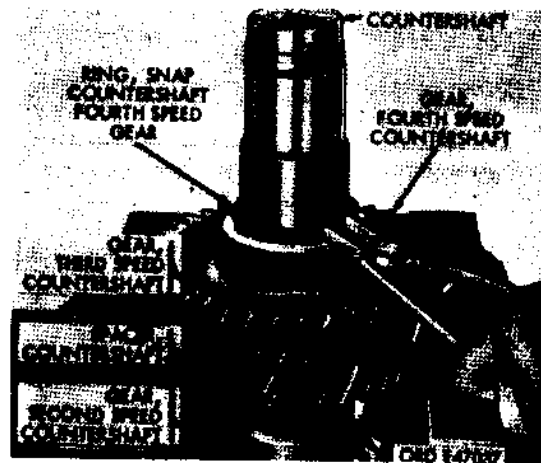

Figure 281. Disassembling countershaft assembly
- (b) Remove countershaft fourth speed gear snap ring (fig. 281) and press countershaft from fourth speed gear, third speed gear, countershaft spacer, and second speed gear, in order named. Remove the Woodruff key in order and hone any nicks or burrs from the shaft with a hone stone.